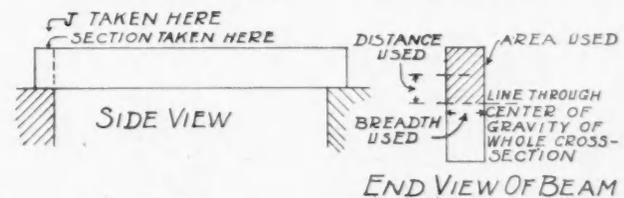

Fig. 7. Location of Quantities Used in Formula 4 for Rectangular Cross Section
of the cross-section of the beam which lies either above or below a horizontal line drawn through the center of gravity of the whole cross-section, and then multiply this answer by the distance of the center of gravity of this upper or lower area which you have used, from the line through the center of gravity of the whole cross-section. Fig. 7 shows the location of these quantities for an ordinary beam for rectangular cross-section. Then divide this answer by the value of the moment of inertia (I) for the whole beam cross-section, and divide this answer again by the breadth or thickness of the beam material at the center of gravity of the whole cross-section.
formulas are given. One of these sets of formulas will be for a line through the center of gravity of the whole section as shown in Fig. 7, and the other set may be given with reference to a line extending up and down through the middle of the section, and perpendicular to the one we have used.
The following table will give you values for the distance to the center of gravity of the part above the horizontal line shown in Fig. 7:"